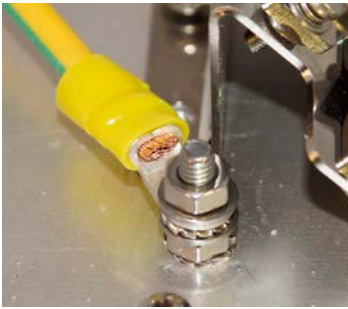

Figure 8: Grounding Bolt
-  **Note** The grounding strap must be as short as possible. If wire is used, use a minimum of 2.5 mm² copper wire. See *Figure 8: Grounding Bolt* on page 15.